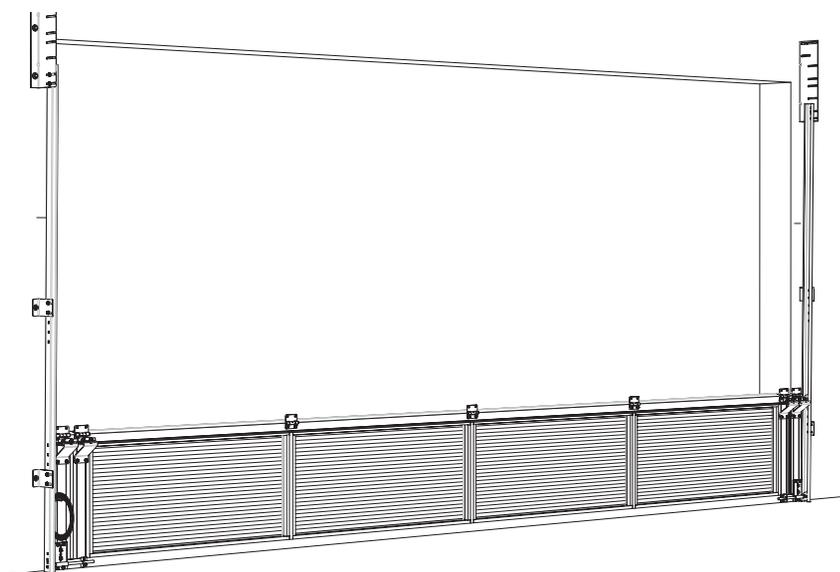

Fig: 3.2.1
- Carefully lower the wheels of the bottom panel into the tracks and lower so the panel is sitting level in the door opening Fig 3.2.1.